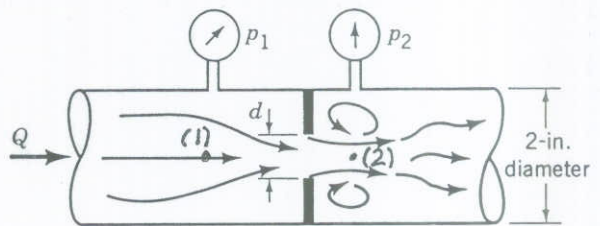

FIGURE P3.108
3.108 What diameter orifice hole,  $d$ , is needed if under ideal conditions the flowrate through the orifice meter of Fig. P3.108 is to be 30 gal/min of seawater with  $p_1 - p_2 = 2.37 \text{ lb/in.}^2$ ? The contraction coefficient is assumed to be 0.63.